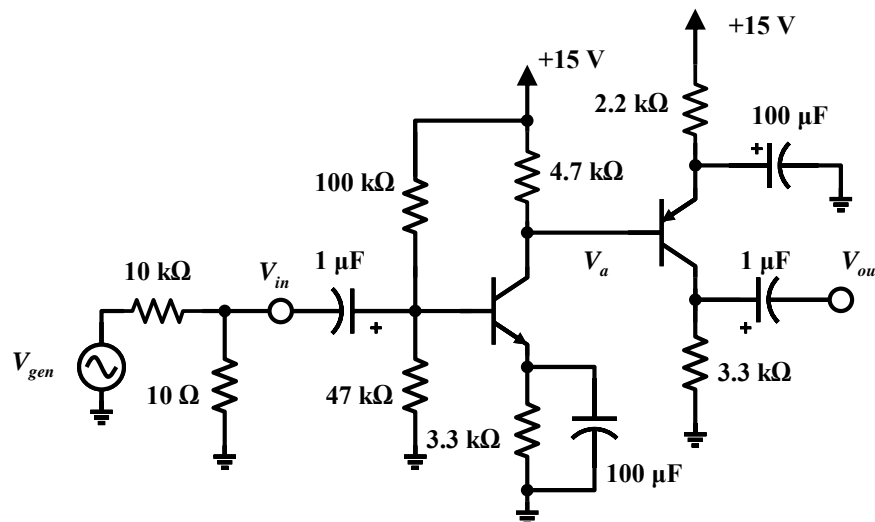

Figure 3-3 – Two-stage amplifier.
The circuit in Figure 3-3 is a cascade of two common-emitter stages, one with an NPN device and the second using a PNP device. Cascading gain stages has the advantage of increased gain, but comes at the expense of a decreased bandwidth, as you will see firsthand below.
- Construct the circuit in circuit Figure 3-3. Note the supply voltage has been increased to 15 V. Measure and record the mid-band AC voltage gain $A_{vo} = V_{out} / V_{in}$ with a generator signal of 0.1V sinusoid at 10kHz. It may be difficult to see V_{in} on your oscilloscope because of the large step-down ratio of the voltage divider at the input (nominally a divide-by-1000). If so, increase the input signal briefly to establish the actual voltage division ratio, then use this information to calculate the V_{in} for a 0.1V generator input.